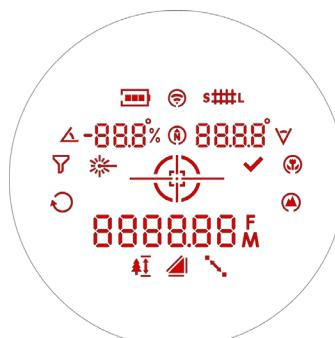

Figure 7
2. Compare the in-scope display to Figure 7 to verify that all indicators are working properly.